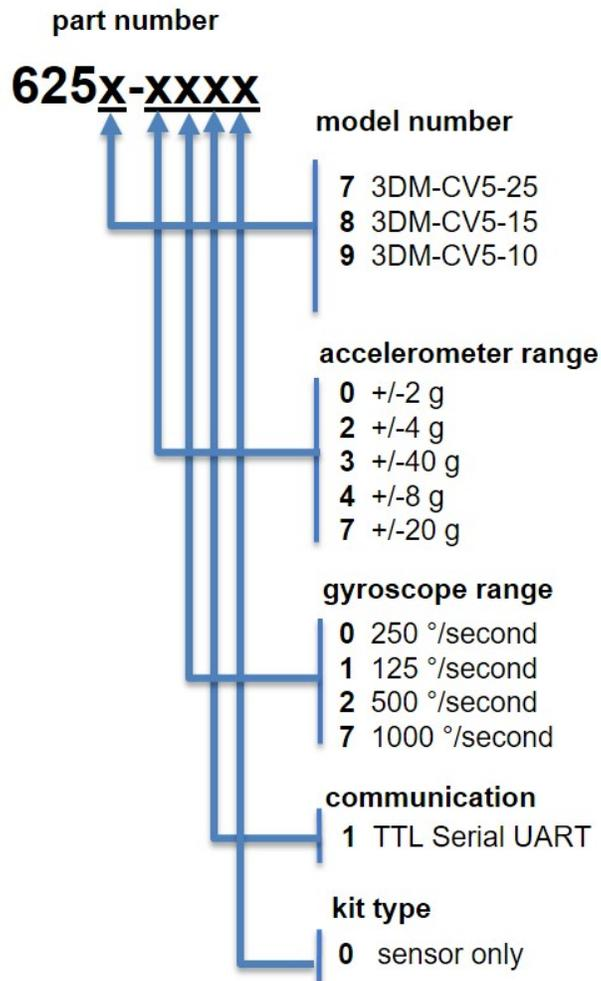

Figure 30 -Standard Part Numbers
*Table 4 - Model Numbers* describes the standard models available at the time this manual was published. Once a model is selected, the part number is further defined by desired configuration and interface options. The model determines the first four digits of the product part number; the options are indicated in the last four digits (*Figure 30 - Standard Part Numbers*).